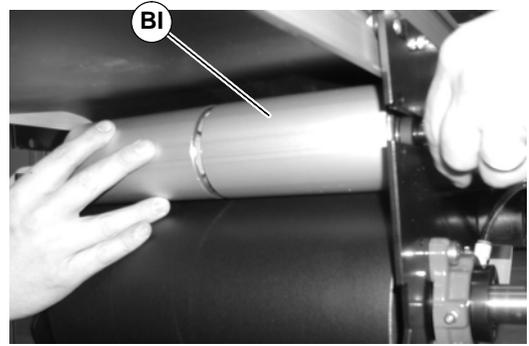

Figure 84
7. Slide out tensioning pulley (BI of Figure 84).